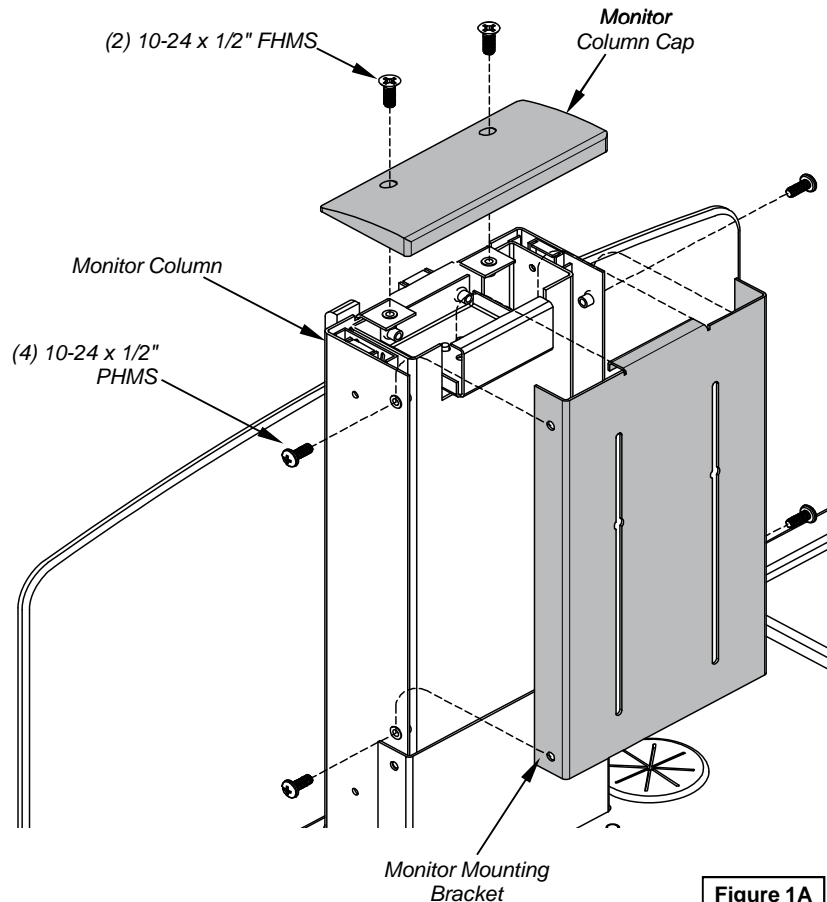

Figure 1A
- Remove the monitor column cap by removing the (2) 10-24 x 1/2" FHM screws. **Figure 1A.**
- Detach the monitor mounting bracket from the desk by removing the (4) 10-24 x 1/2" PHM screws shown.
- G. Hook the monitor mounting bracket with the attached monitor onto the column and re-assemble with the (4) screws taken out in Step C. See **Figure 1A.**